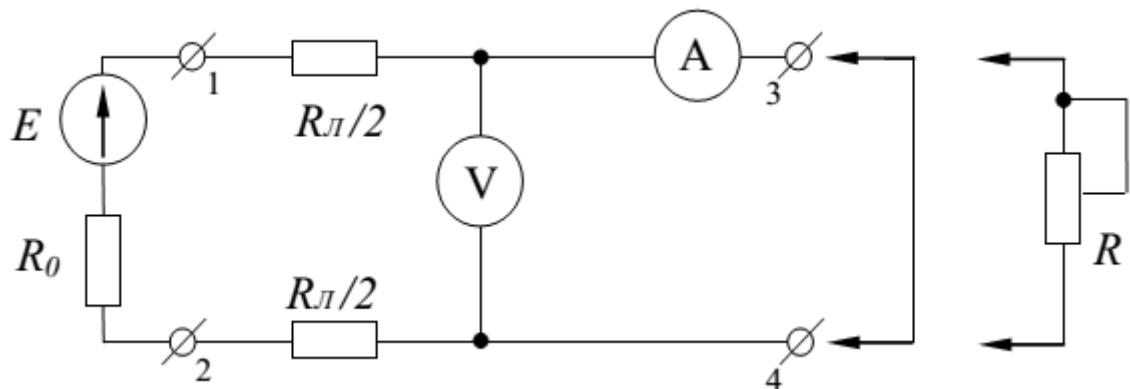

Fig. 1.10
1. Collect the circuit (fig. 1.10).
The name and the purpose of the work. Homework – the calculation of the circuit. The schematic diagram of the investigated circuit (fig 1.10). The table 1.2. The results of calculations of source parameters. The graphs. The conclusions.